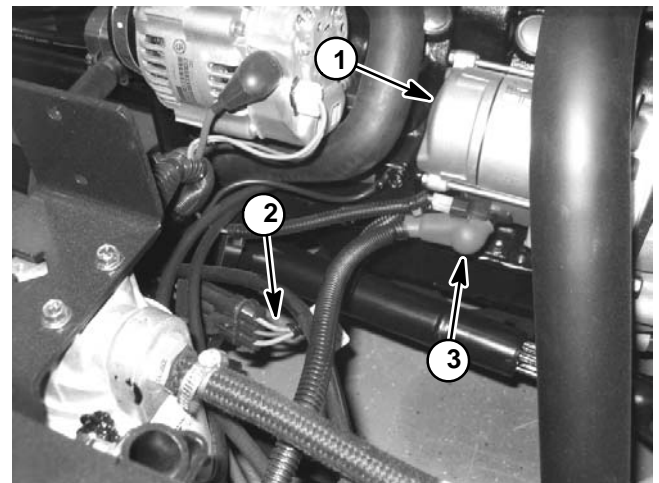

Figure 24
A Workman HD series vehicle uses three (3) fusible links for circuit protection. These fusible links are located in a harness that connects the starter B+ terminal to the vehicle wire harness (Fig. 24). If any of these links should fail, current to the protected circuit will cease. Refer to electrical schematics and wire harness drawings in Chapter 11 – Electrical Drawings for additional fusible link information.